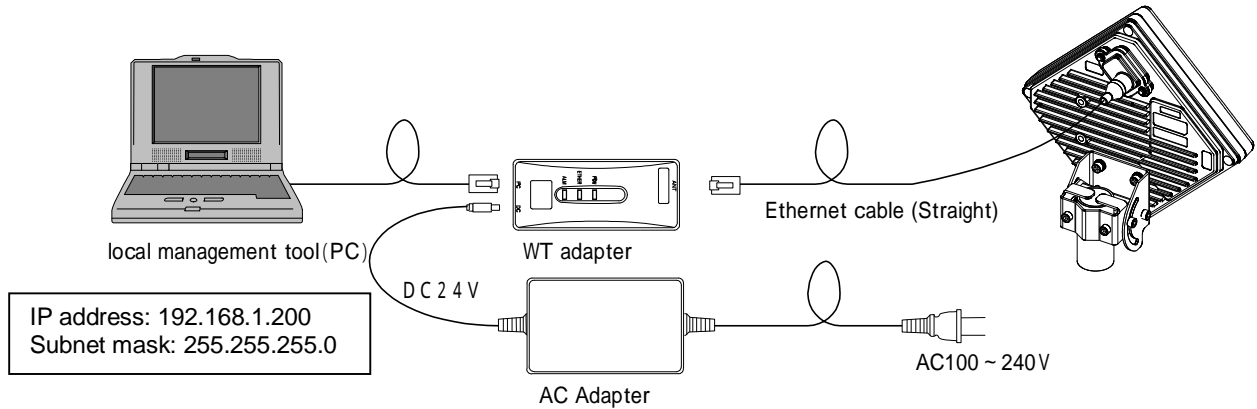

Figure 6-30 How to Install the Cabling
(1) As shown in Figure 6-30, connect the WT Local Management Tool (PC) to the WT adapter.